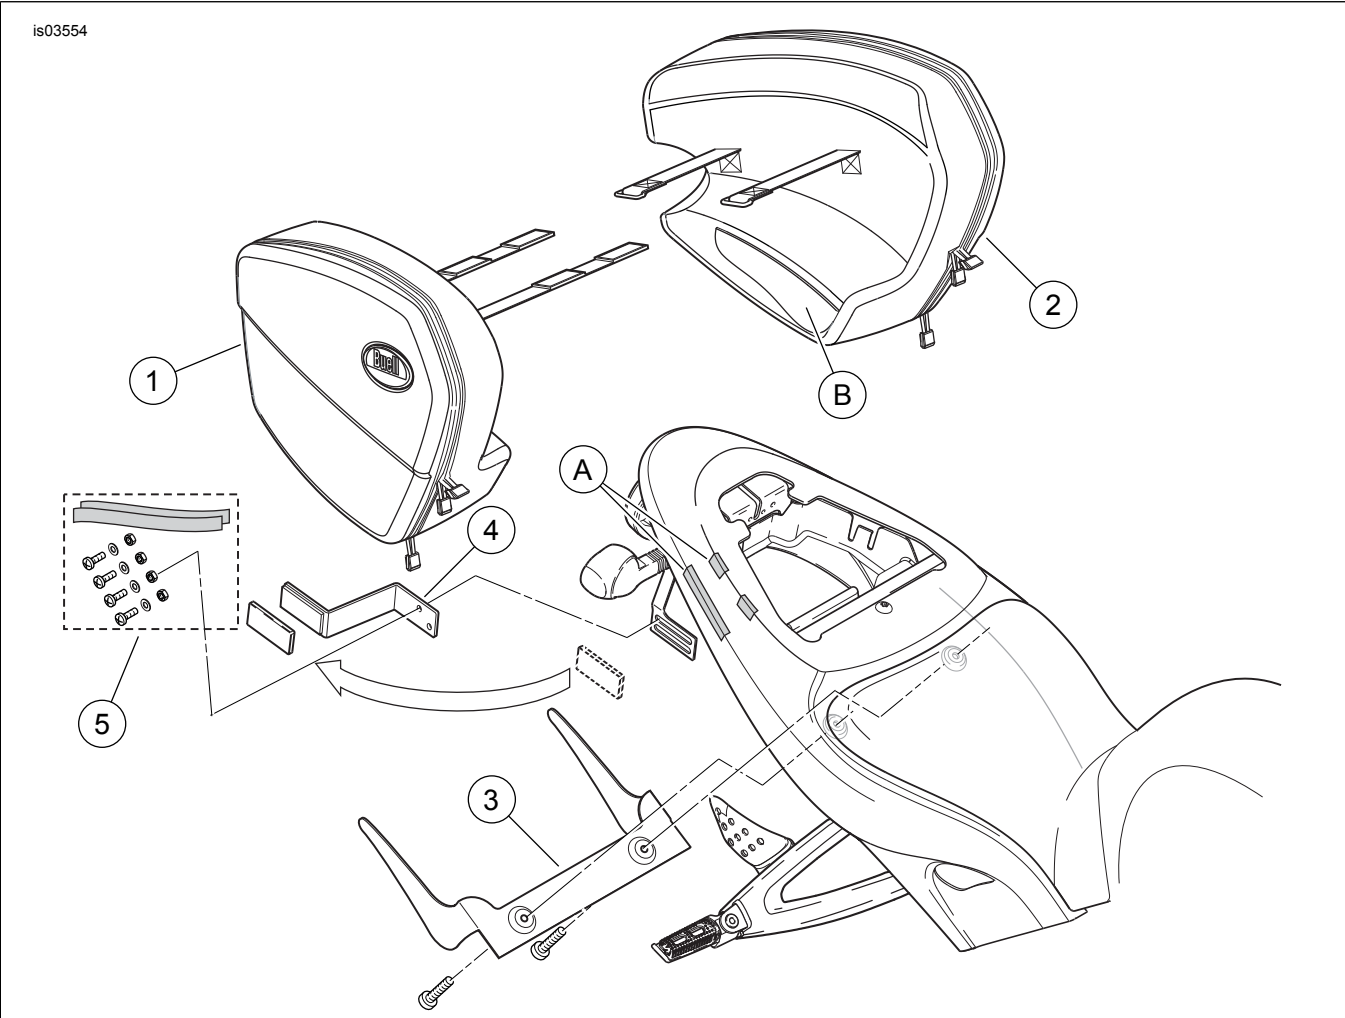

Figure 1. Service Parts: Buell Firebolt XB Removable Saddlebags
See Figure 1 and Table 1.
2. See Figure 1. Fit the saddlebag bracket (3) to the under shield and secure with the screws.
3. See Figure 1. Mount the reflector relocation brackets (4) to the stock reflector mounting brackets.
4. See Figure 1. Loosely attach each relocation bracket through the slots in the stock bracket with two screws, flat washers, and lock nuts.
1. See Figure 1. Slide the mounting pocket (B) on the back side of the left (2) and right (1) saddlebags onto the saddlebag bracket arms.
4. To prevent damage to the finish, cut and fit lengths of the clear protective tape to those points (A) where the saddlebags and straps contact the tail section.